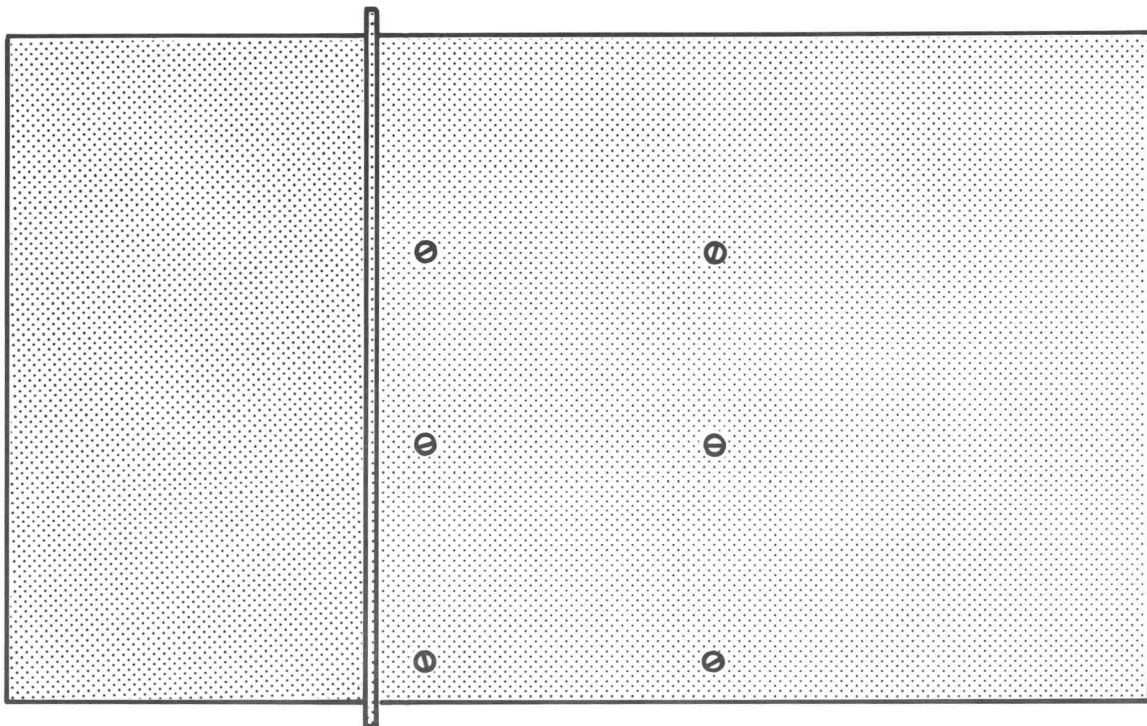

Fig. 3-6. Power Supply bottom-mounting screws. Unit should be on its left side (as shown) before removing the screws.
1. Lay the Terminal on its left side as shown in Fig. 3-6 and remove the 6 screws shown.
6. When re-assembling, fasten the nuts in place first, then place the unit on its side as in Fig. 3-6 and install the 6 screws. Tighten all fasteners after all are in place.